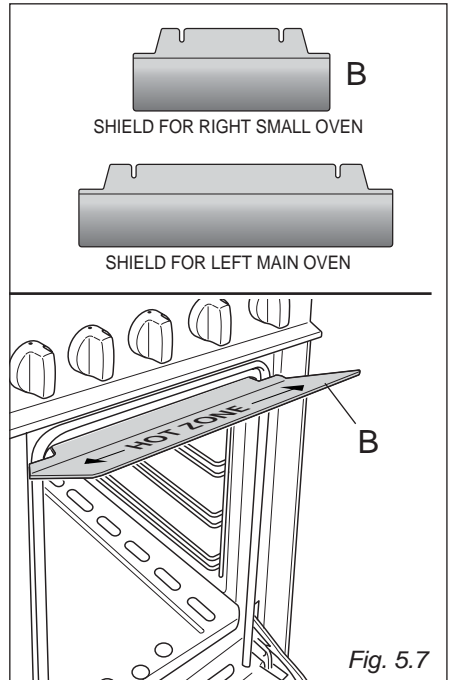

Fig. 5.7
IMPORTANT: the grill must always be used with the oven door ajar and with shield "B" mounted (fig. 5.7).
Do not close completely the oven door. The grill must always be used with the oven door slightly open and with shield "B" mounted (fig. 5.7).
Very important: the grill must always be used with the oven door slightly open and with shield "B" mounted (fig. 5.7).
- It is important that the heat shield is fitted the correct way up, as shown in the figure 5.7.